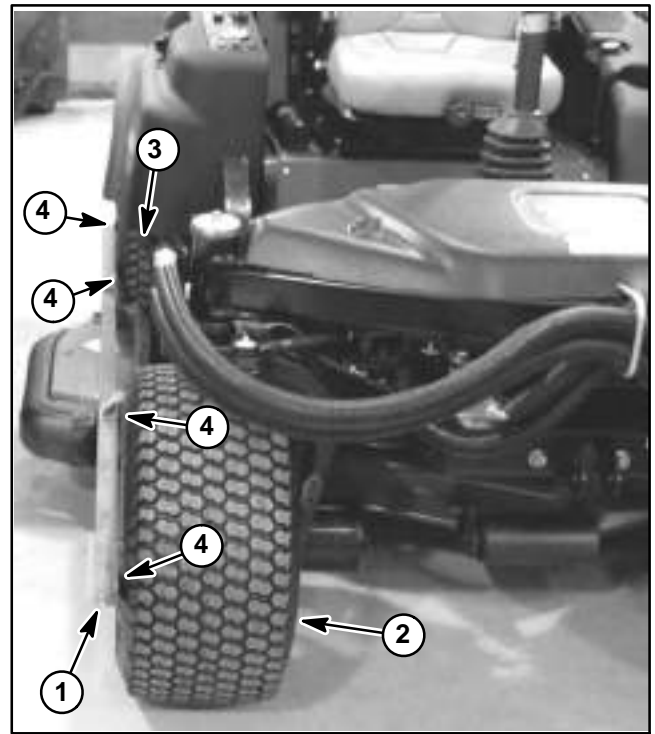

Figure 10
9. With both alignment tools installed, place a rigid straight edge (e.g. angle iron, metal pipe) that is at least 80 inches (2 meters) long against the sides of the front and rear tires on one side of the machine (Fig. 10). The straight edge should contact the tires at four (4) points if the wheel alignment is correct.